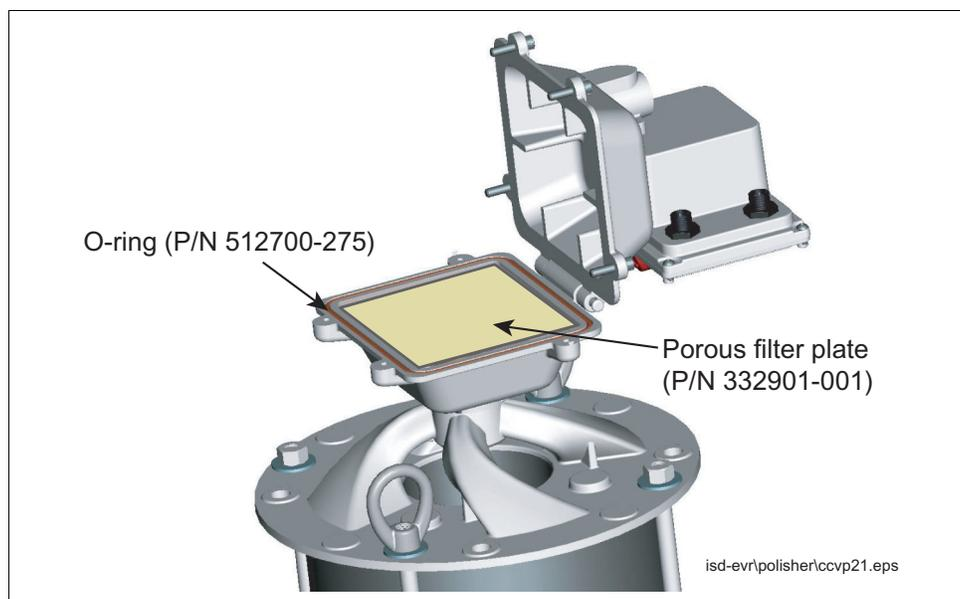

Figure 11. Replacing the valve filter and o-ring
2. Swing the housing top back and remove the filter plate from its seat and the o-ring from its groove in the Vapor Valve Filter housing's lower half (see Figure 11).